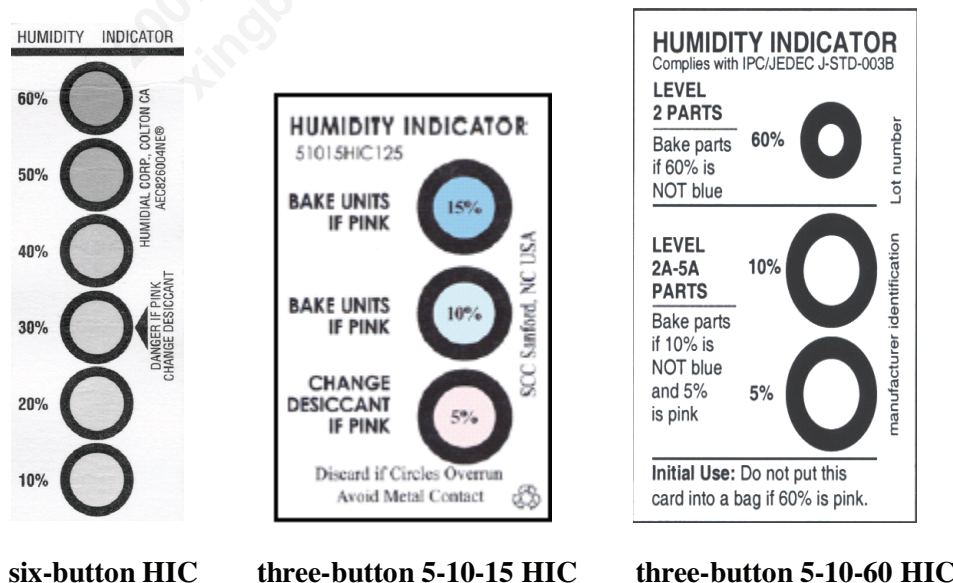

Figure 6-8 Example humidity indicator cards
Along with the desiccant pouches, the MBB contains a humidity indicator card (HIC). This card is a moisture indicator and is included to show the approximate relative humidity level within the bag. Representations of example HICs are shown in Figure 6-8. If the components have been exposed to moisture beyond the recommended limits for use in an SMT process, the units must be rebaked.
A three-button 5-10-60 HIC (right side of Figure 6-8) replaces the three-button 5-10-15 HIC (middle of Figure 6-8) in some packaging to comply with new J-STD-033B specifications. The new 60% RH button on the HIC allows for identification of RH limits on MSL 2 product packaging. The cards should be read as follows:
- Six button HIC (left side of Figure 6-8):
- Three button 5-10-15 HIC (middle of Figure 6-8):
- Three button 5-10-60 HIC (right side of Figure 6-8):